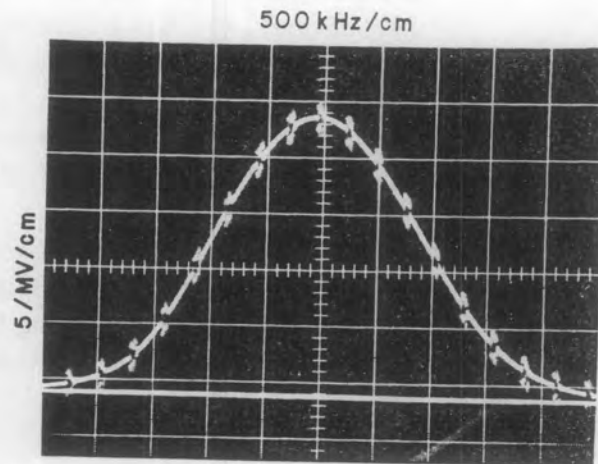

Figure 4-24. Typical Response,
- (7) Tune the sweep generator and 90-300 MHz tuner to 300 MHz.
- (8) Adjust the sweep generator and oscilloscope controls to display a response curve. It should appear similar to Figure 4-24.
- (9) If the response curve does not resemble Figure 4-24, adjust A1L8 and A1L10 (by spreading or compressing the turns as required) until it does. A fine adjustment can be made by moving the taps on the coils. Adjust A1C33 for a 3 dB bandwidth of about 6 MHz.
- (10) Repeat the alignment procedures at 90 MHz and 300 MHz until the interaction between the adjustments is at a minimum.